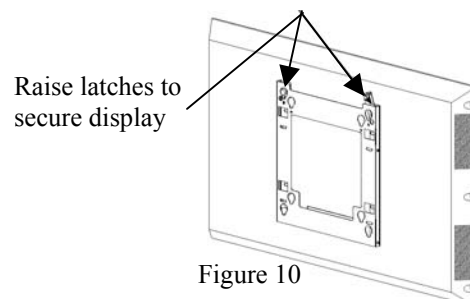

Figure 10
4. Raise safety latch to secure plasma in place (see Figure 10).